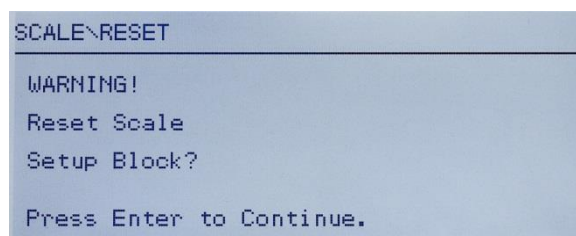

Figure 3-21: Terminal Reset Warning Screen
9. Use the DOWN navigation key to select Reset, then press **ENTER**. The screen shows a warning message about resetting the Scale setup (Figure 3-21).